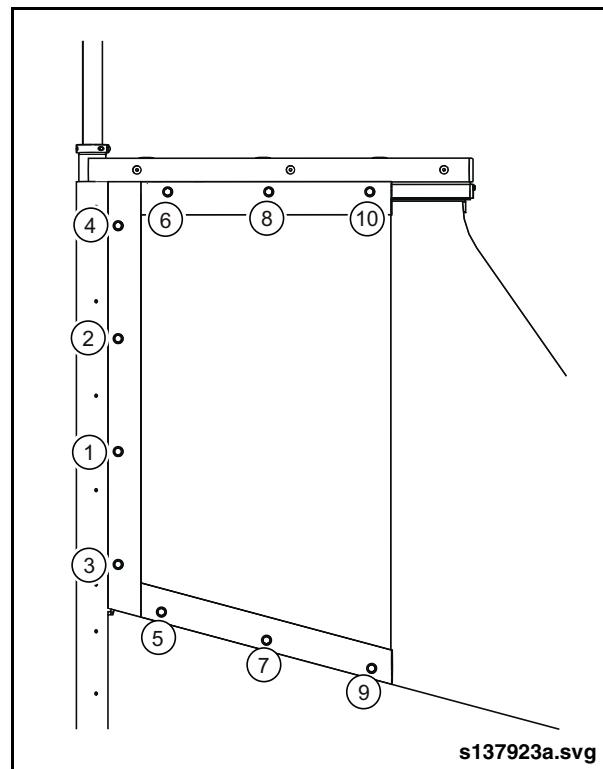

Fig. 17-24: Fixed Glass Clamp Torque Sequence
10. Tighten hardware to 75 in-lbs. in accordance with pattern. See "Fig. 17-24: Fixed Glass Clamp Torque Sequence" on page 24.